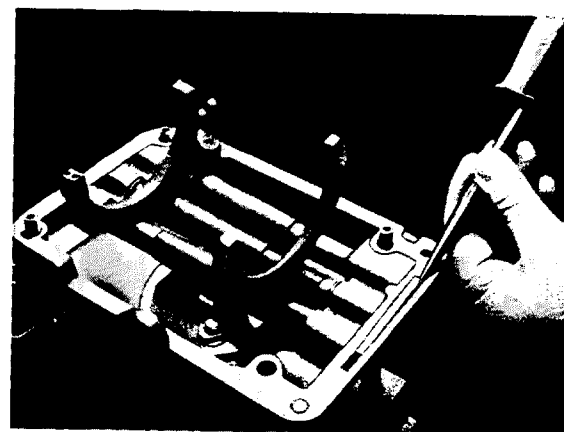

Fig. G 3/23
22. Push the three followers with the index finger forward one after the other and take the ball out (Fig. G 3/22). Take out synchronizer unit (Fig. G 3/22a).